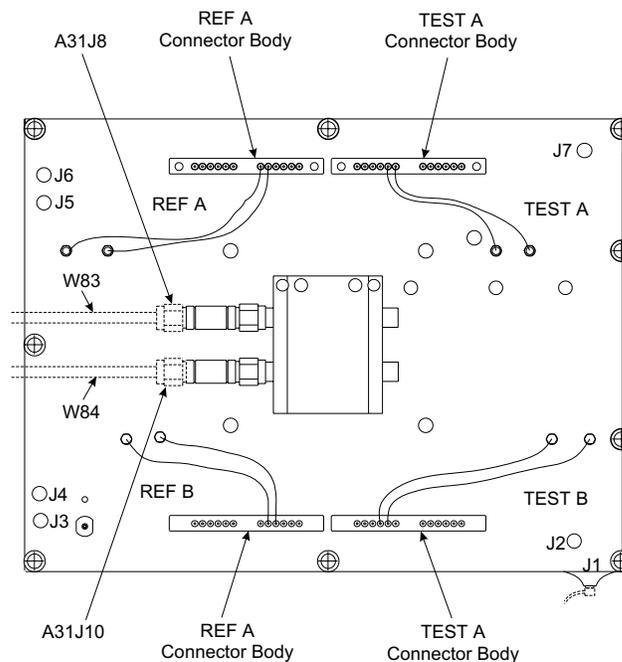

Figure 8-13. A31 Buffer Amplifier/Sampler Assembly, Details
- Step 1.** Disconnect the semi-rigid coaxial lines, W83 and W84, from the 20 dB pads that are part of the Buffer Amplifier/Sampler assembly; see Figure 8-13. (For units with Option 11, the semi-rigid coaxial lines are W46 and W47.)
- Step 3.** Disconnect the two cable connectors from the TEST A connector body on the Buffer Amplifier/Sampler assembly (see Figure 8-13). Similarly, disconnect the two cable connectors from the REF A connector body. NOTE